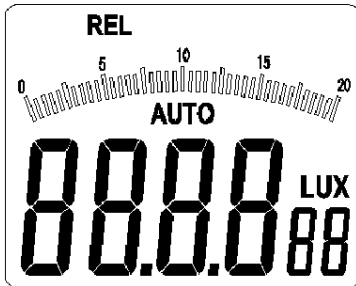

Figure 3-1-2A
- Press and hold REL/PEAK key for a short time (composite key for relative/peak value measurement), “REL” will appear on the top left of the LCD screen (as shown in figure 3-1-2A), and the device will enter the relative value measurement mode;